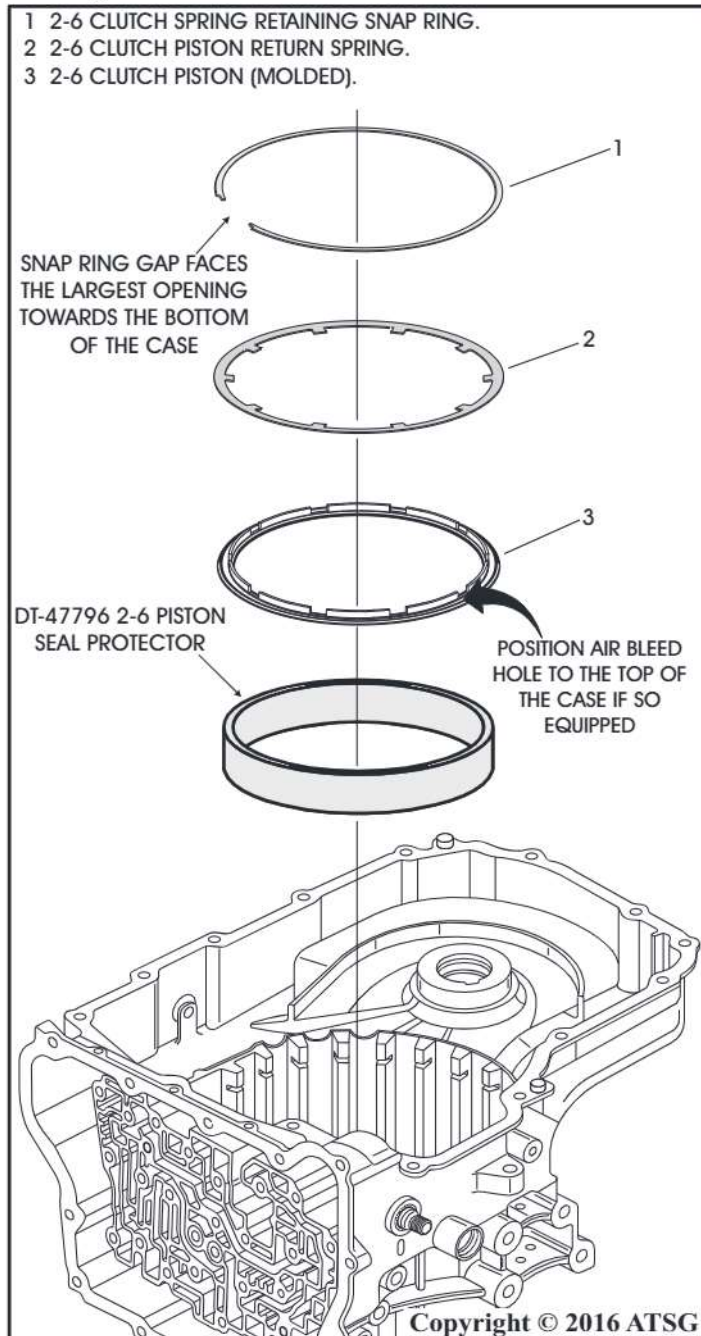

Figure 151
36. Lubricate with transmission fluid the inside of the DT-47796 seal protector and place it into the bottom of the transmission case as seen in Figure 151.
37. Lubricate with transmission fluid the inner and outer lip seal areas of the 2-6 clutch piston and place it into the seal protector and push it all the way down until it bottoms out as seen in Figure 151 and remove the DT-47796 seal protector.
38. Install the 2-6 clutch piston return spring on top of the 2-6 clutch piston "dish up" as shown in Figure 151.